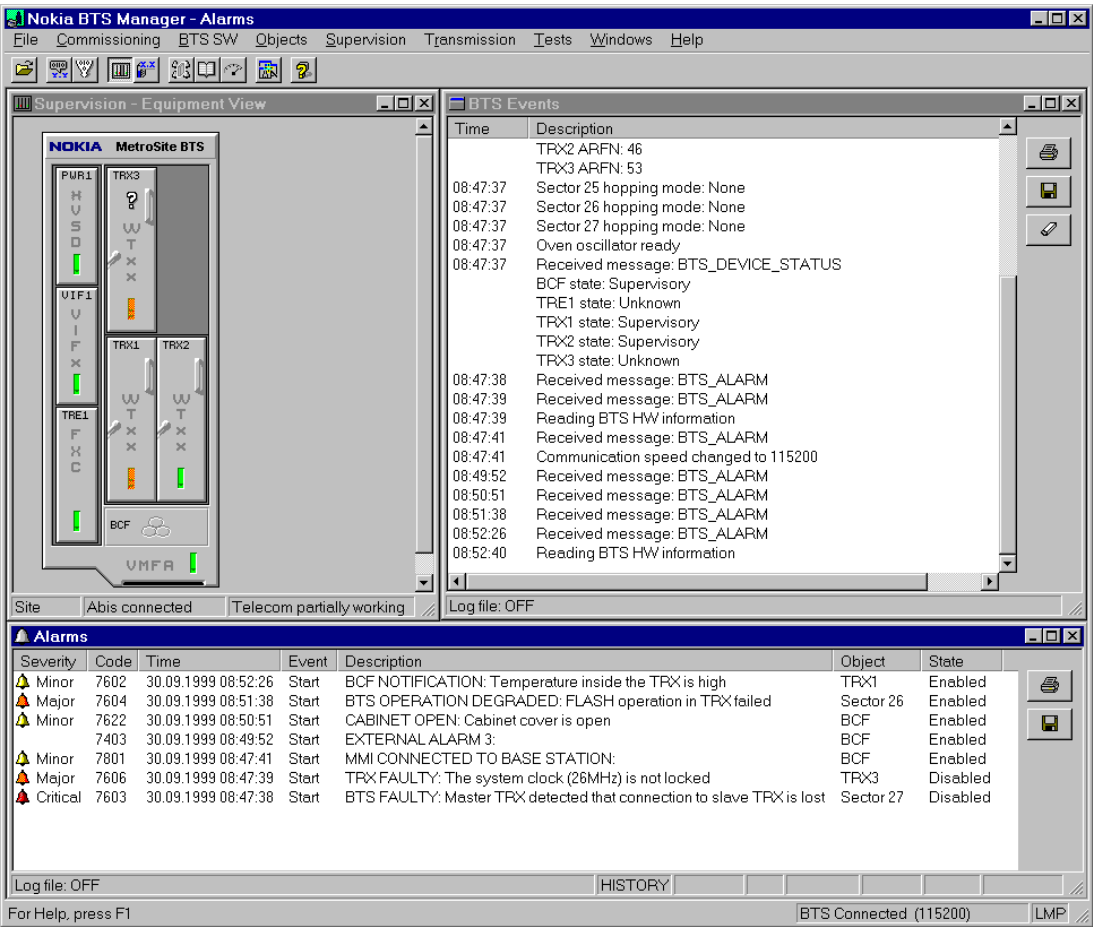

Figure 3. Alarms view on Nokia BTS Manager desktop
- Figure 3. *Alarms* view on Nokia BTS Manager desktop **13**